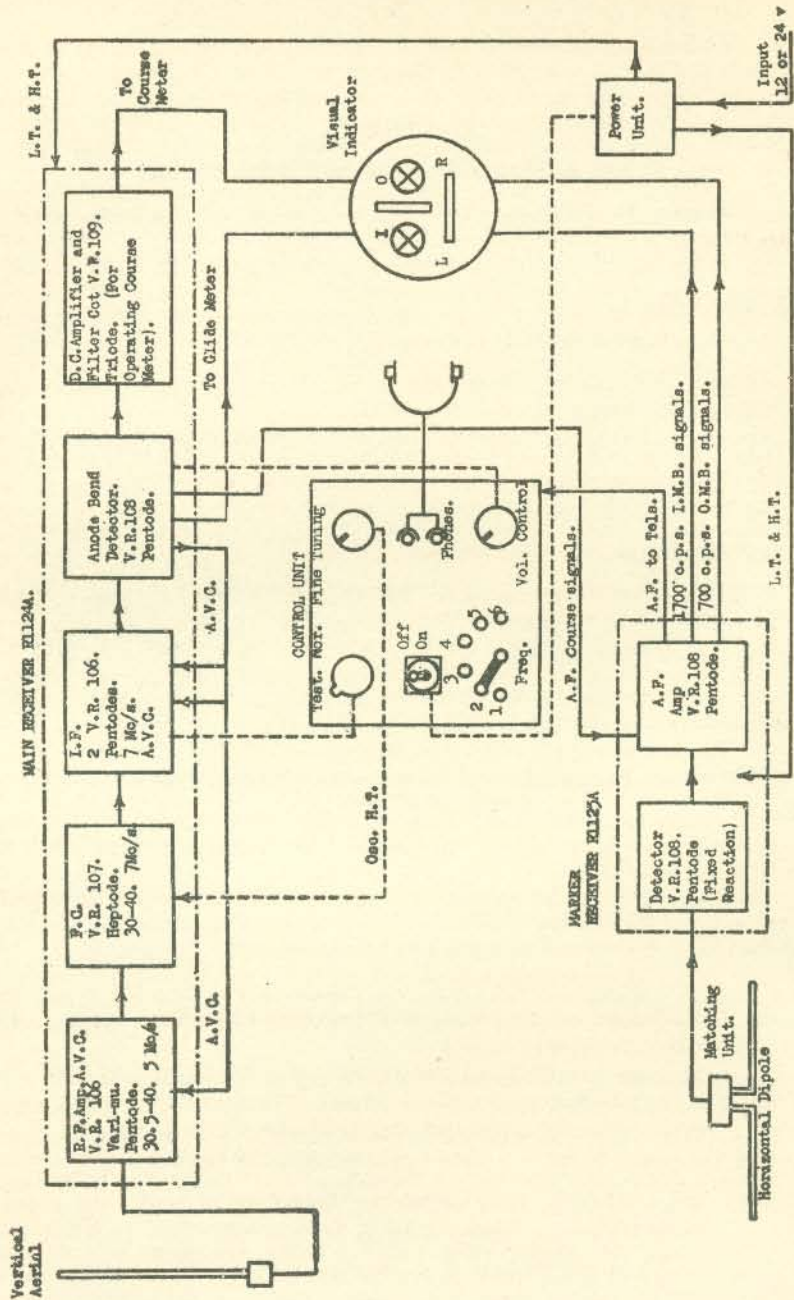

Fig. 88.—Block diagram beam approach equipment.
7. **Circuit** (the block schematic diagram (fig. 88) indicates the general principles of the equipment).—(i) R.1124A; the aerial, R.F. anode, F.C. grid and oscillator circuits are each tuned by six pre-set condensers (24 condensers in all).